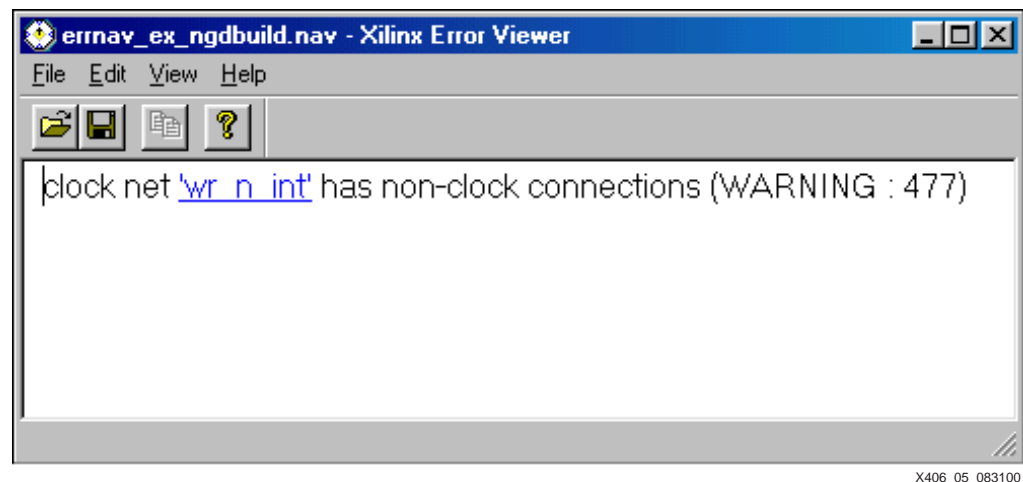

Figure 12: Navigation Report from LeonardoSpectrum Synthesized Design
1. Invoke the Error Viewer from Design Manager or from the command prompt as described in **Displaying the Navigation Report for Logical Cross Probing**, page 1. The Error Viewer window will show DRC warnings and/or errors from NGDBuild with the net names highlighted, as shown in **Figure 12**.